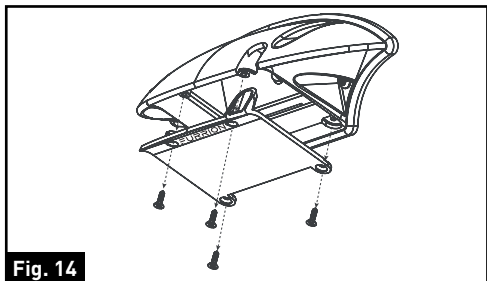

Fig. 14
6. If only installing the mounting bracket, secure the camera power cable inside the mounting and attach the cover. (Fig. 14)